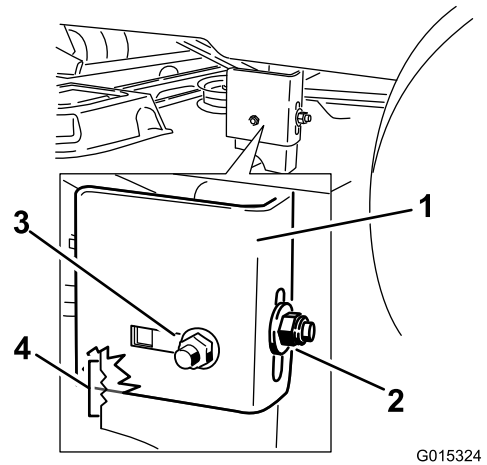

Figure 51
9. Loosen the rear locking nut on the hanger bracket just enough to move the bracket (Figure 51).
11. Stop the deck at the adjusted position and tighten the rear locking nut on the hanger bracket to hold the new position (Figure 51). Tighten the side locking nut on the hanger bracket.